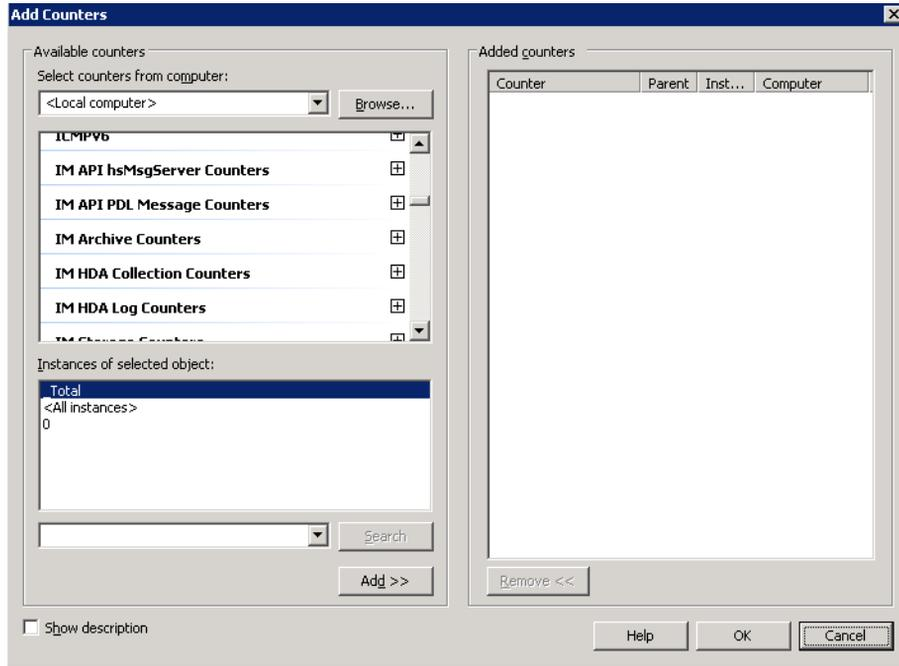

Figure 73. Selecting the IM Counter Category
3. Choose whether to use counters on the local computer (**Use local computer counters** radio button), or use counters from a different computer. To use a different computer, select **Select counters from computer:**, then select the computer from the associated pull-down menu, Figure 73.